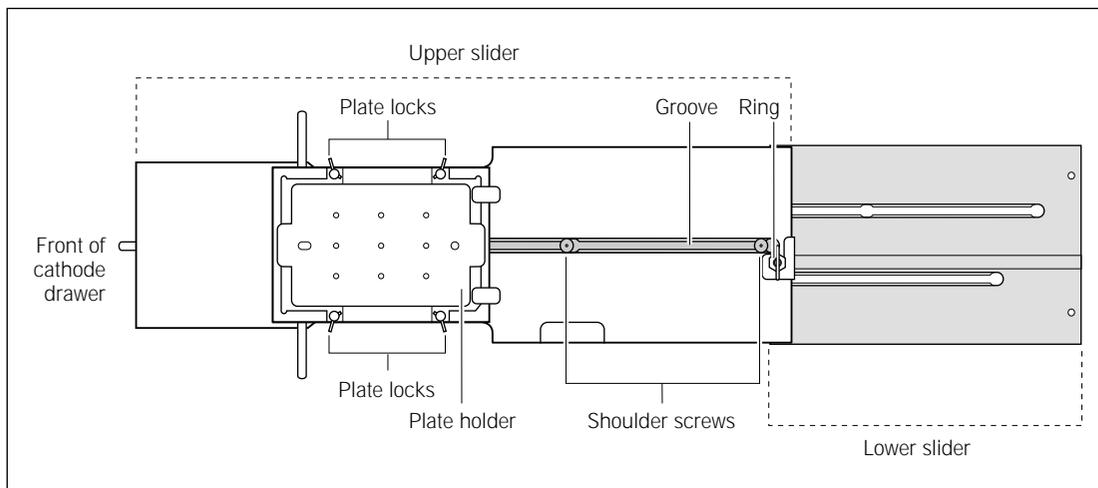

Figure 3-2. The upper and lower cathode sliders for the cathode assembly, top view.
- Then lift the upper slider off the lower slider (figure 3-2).
1. Hold the lower slider (the piece without the plate holder, figure 3-2) so that the shoulder screws face up and the wide end is toward the instrument.